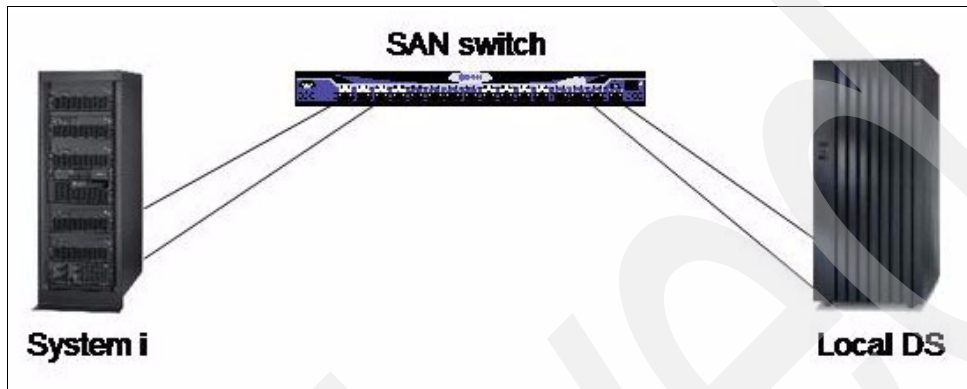

Figure 14-1 SAN switch to facilitate, manage, and share connections between the two systems
To connect the two systems, we use optical connections, called *Fibre Channel (FC) adapters*, on the System i model and a host bus adapter (HBA) on the DS system. For various reasons, such as a limited number of HBAs on the DS system, you can place a storage area network (SAN) switch (Figure 14-1) between the systems to facilitate, manage, and share the connections.